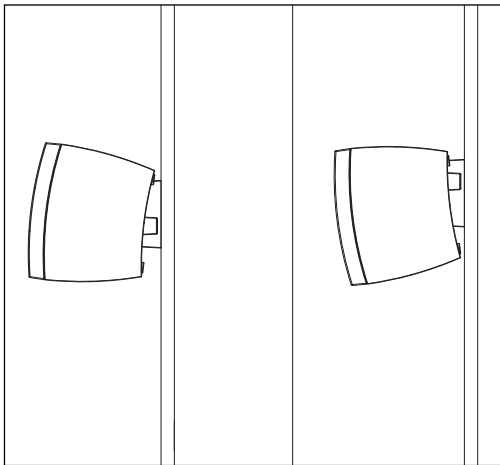

Fig. 2
For the most accurate timbral balance, place your front speakers so that their high-frequency drivers are approximately ear level (see positioning ① and ②). Measure the distance from the listening area to your speakers. For optimal imaging, place the speakers approximately 3/4 of that distance from each other. MLT-1 speakers can be placed on a shelf, or wall mounted (Fig. 2 on page 7)
NOTE: When mounting the MLT-1 center channel, if you run speaker cable down the face of the wall, apply self-adhesive bumper pads (included) to rear corners of enclosure to accommodate the cable (see Figure 2).